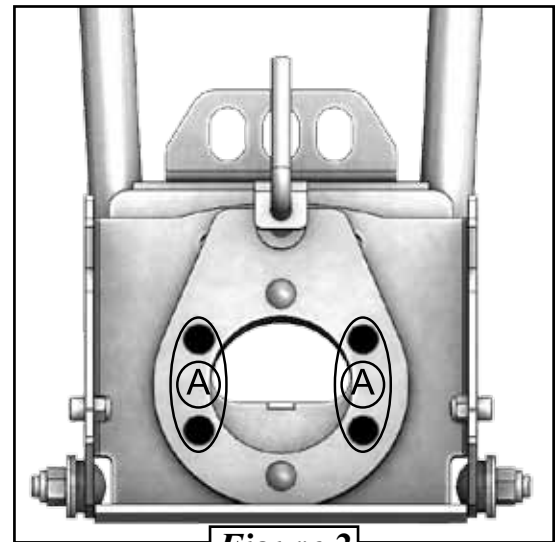

Figure 2
1. Remove the four 3/8" carriage bolts (A) as shown in *Figure 2*.